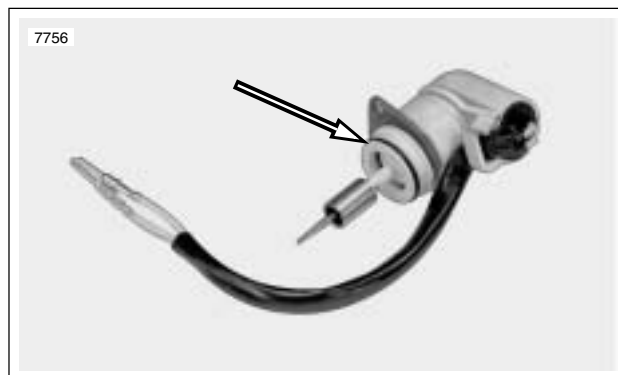

Figure 4-20. Auto-Enrichener with O-ring
1. See Figure 4-20. Obtain **new** auto-enrichener assembly. If old enrichener is used, inspect o-ring for cuts, tears or signs of deterioration. Replace o-ring if necessary.